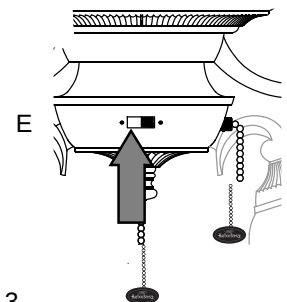

Fig. 3
3. Use the fan reverse switch, located on the switch housing (E), to optimize your fan for seasonal performance. [Fig. 3] A ceiling fan will allow you to raise your thermostat setting in summer and lower your thermostat setting in winter without feeling a difference in your comfort.